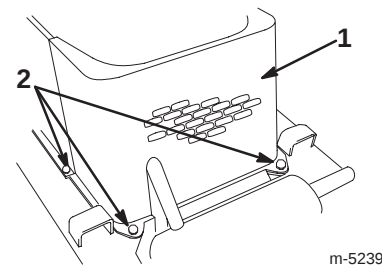

Figure 21
- Remove the 4 bolts securing the front screen to the traction unit frame and remove the front screen (Fig. 21).